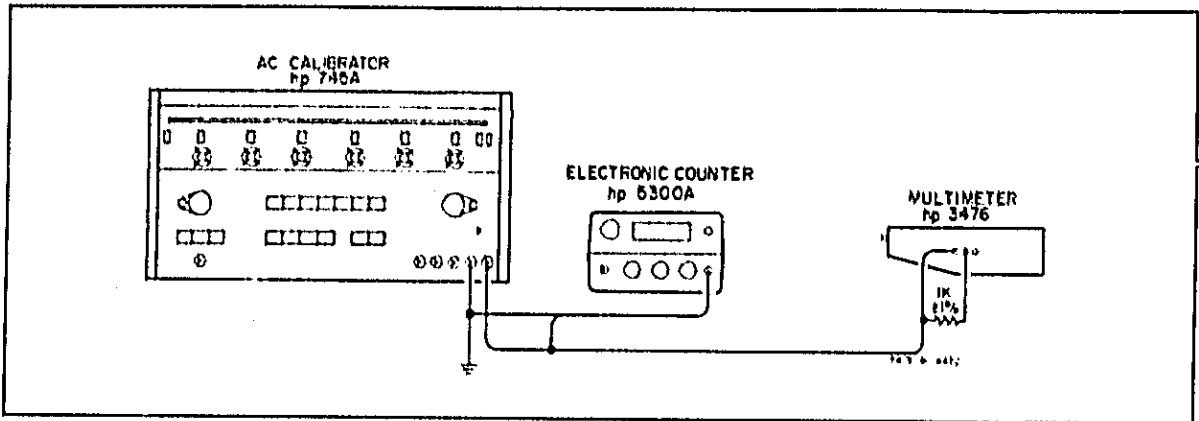

Figure 5-4. Common-Mode Rejection Test.
- Connect the AC Calibrator III output terminal to the Multimeter as shown in Figure 5-4.